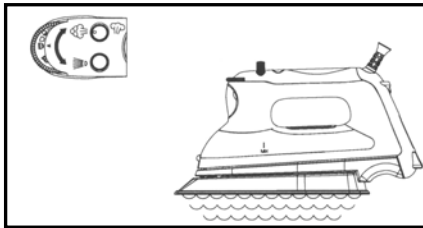

Fig. 2
- Place the iron on its heel on a stable, protected surface and allow the iron to heat for approximately **two (2) minutes** or until the temperature settings on the right side of the LED display panel have stopped flashing.
- Turn the variable steam control dial to the right to increase the amount of steam. When using extra steam, the iron uses more water and it may be necessary to fill the water tank more often. (Fig. 2)